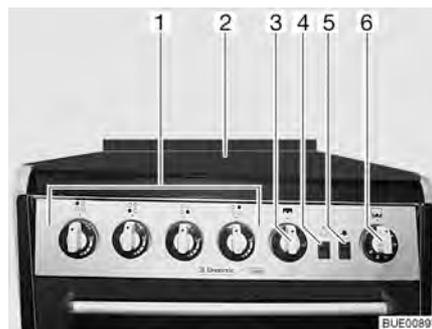

Fig. 151 Gas cooker with oven and grill
- Open the gas cooker lid (Fig. 151,2).
- Turn the control knob (Fig. 151,1) on the burner you wish to use to the ignition position (large flame).
- Press the lighting knob (Fig. 151,5) until there is a flame.
- ▷ The switch (Fig. 151,4) is used to turn the oven light on and off.
- Lightly press the control knob (Fig. 151,3) and turn to lighting position (large flame).
- Press the control knob (Fig. 151,6) slightly and turn it to an ignition position between 1 and 6.